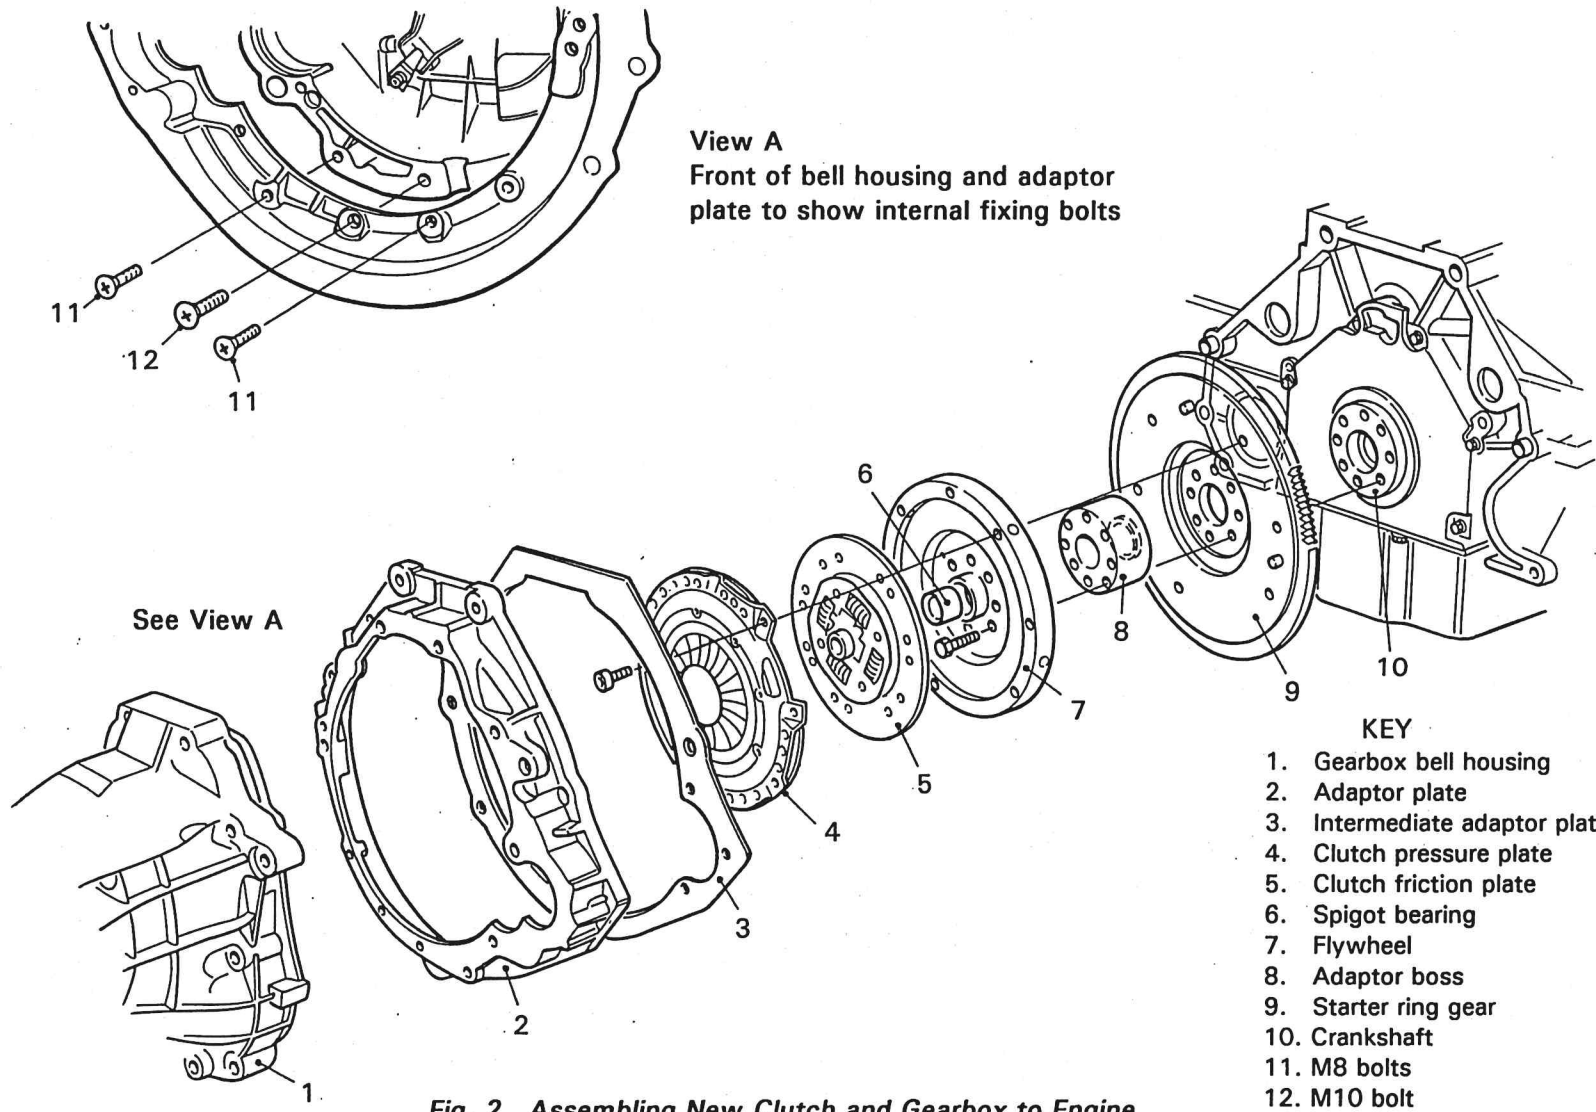

Fig. 2 Assembling New Clutch and Gearbox to Engine
1. Refer to Fig.2. Orientate correctly the spigot bearing (6) so that the open end faces towards the gearbox then press the bearing into the centre of the flywheel (7) until flush.
2. Fit new flywheel (7) and spigot bearing (6) assembly, and starter ring gear (9) with adaptor boss (8) to crankshaft (10) using eight off M10 x 75mm x 1.0mm pitch bolts. Apply Loctite to threads and tighten bolts in alternating sequence. Tighten to torque (refer to Engine Manual).
3. Fit new clutch friction plate (5) and pressure plate (4), locating it on dowels, and bolt to flywheel (7) using six off M8 x 20mm caphead bolts. Loctite threads and tighten to torque.
4. Fit new adaptor plate (2) to gearbox bell housing (1) using correct outer bolts and dowels. Also fit three internal countersunk bolts (11 and 12), smear Loctite on threads and tighten to torque.
5. Fit gearbox (5-speed standard or 6-speed option) and adaptor plate assembly (2), with the thin intermediate adaptor plate (3) to the engine using correct